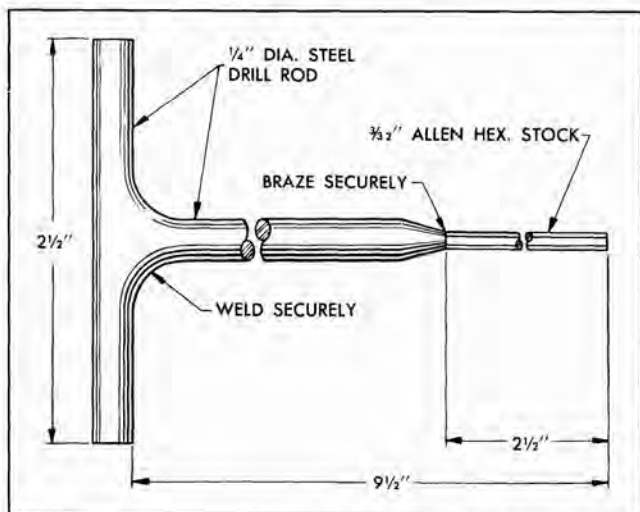

Fig. 2-15 Air Inlet Valve Link Adjusting Tool
**NOTE:** A tool made as shown in Fig. 2-15 will facilitate adjustment of the link.